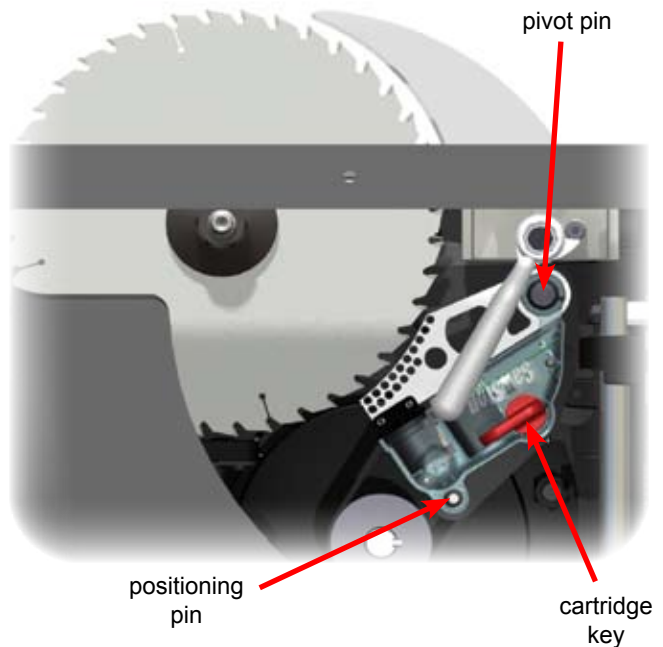
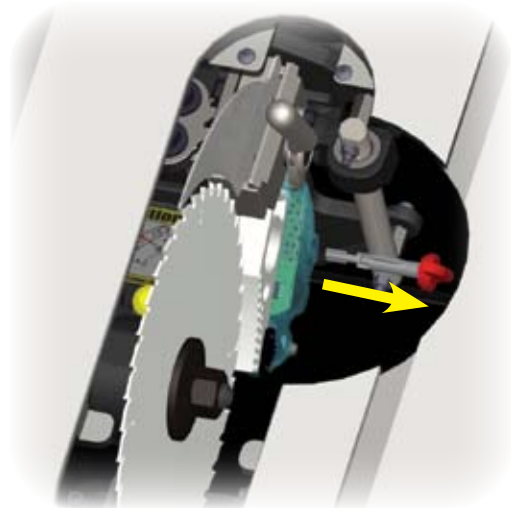

Fig. 88
Fig. 89
The brake cartridge is mounted on a large pivot pin and a smaller positioning pin as shown in Fig. 88. Both the pivot pin and positioning pin extend outward from a cartridge mounting bracket that sets the position of the cartridge. The cartridge mounting bracket also holds a computer cable that self-aligns to the connector in the side of the cartridge. A cartridge key is used to lock the brake cartridge in place against the cartridge mounting bracket.
To remove the cartridge, first remove the cartridge key by turning it 90° clockwise and then pulling it away from the cartridge (see Fig. 89). Set the cartridge key aside for use with the new cartridge.
If the cartridge has been activated, the brake pawl typically will be locked onto the blade or dado set. As a result, it is usually easiest to remove the blade and the brake cartridge together. To remove the cartridge and blade together, first remove the blade nut and washer, and then remove the cartridge key by turning it 90° clockwise and pulling it away from the cartridge (see Fig. 89). You can remove the blade and brake cartridge simultaneously by alternately moving the blade and then the cartridge to the right to “walk” them off the arbor and pins. Often you can “walk” them to the right by hand, but if not, you can use a blade wrench as a lever. To do this, place one end of the wrench between the blade and the side of the arbor block, being careful to maneuver around the dust shroud. Now push the blade a short distance away from the arbor flange (see Fig. 91 on the next page). **Do not place the wrench against the dust shroud because the dust shroud could break.** Next, place the end of the wrench between the brake pawl and the cartridge mounting bracket to gently pry the cartridge away from the arbor block a short distance (see Fig. 92 on the next page). Only move the blade and cartridge a short distance each step, for example, a distance equal to one or two threads on the arbor. Otherwise the brake cartridge may bind on the arbor and pivot pin. Repeat these alternating steps to walk the cartridge and blade off. A significant force may be needed to pry the cartridge off the mounting pin if the brake pawl deformed and pinched the pivot pin when it stopped the blade.
To install a brake cartridge, the above process is reversed. Align the mounting holes in the cartridge with the pivot pin and positioning pin in the saw (as shown in Fig. 88 on page 61). Slide the cartridge onto the pins until the cartridge rests against the mounting bracket. The cartridge will automatically align with a computer cable mounted in the saw.
Next, insert the cartridge key into the hole in the cartridge housing (see Fig. 89 on page 62). The key shaft has a ridge that must be aligned with a channel in the hole. As a result, the key can only be inserted into the hole when the red handle is pointing toward the brake pawl (as shown in Fig. 89 on page 62). Insert the key fully into the hole and rotate the key 90° counter-clockwise to lock the cartridge in place (Fig. 88 on page 61 shows the key in its locked position). The key will not rotate unless it is fully seated against the side of the cartridge housing and the cartridge housing is pressed against the cartridge mounting bracket.